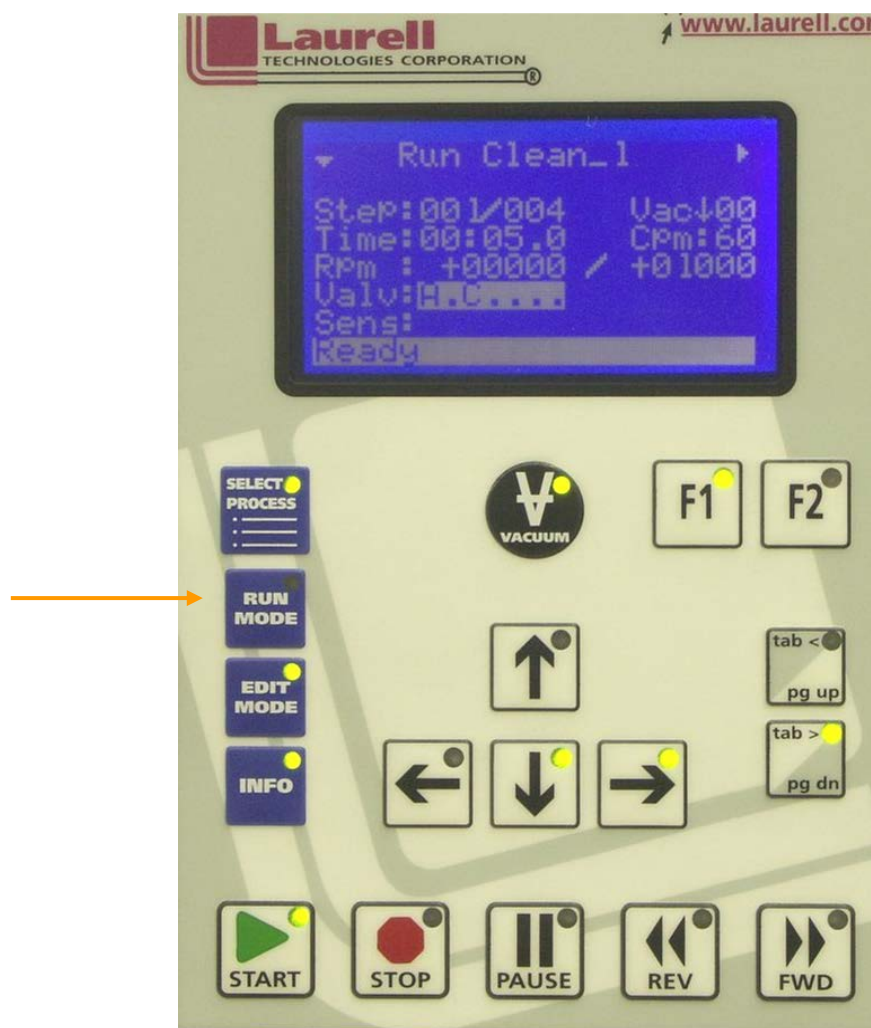

Figure 3-7
2 – RUN MODE – press this key to enter a selected program from the “Select Process” screen into the “run mode”. This key is active when the green LED is illuminated. The start key (11) is active; pressing this key will begin processing. Figure 3-7 shows the “Run Mode” screen. When the “run mode” is selected a number of keys become active as indicated by illuminated green LEDs. From the “Run Mode” the user can enter the “Select Process Mode”, Edit Mode” or “Info Mode”. The “Up Arrow (↑)” and “Down Arrow (↓)” keys can be used to move between “Valv”, “Sens” and “Type” line. The F1 key (9) becomes active when the “Valv” or “Sens” line is highlighted. The F1 key will send the user to the valve or sensor submenu. Vacuum (8) can be turned on or off.